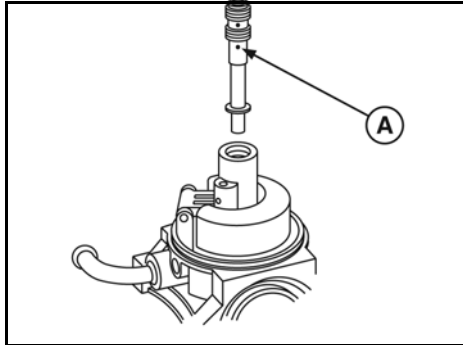

Figure 52
8. Install emulsion tube using Carburetor Screwdriver #19280 until tube seats (A, Figure 52).